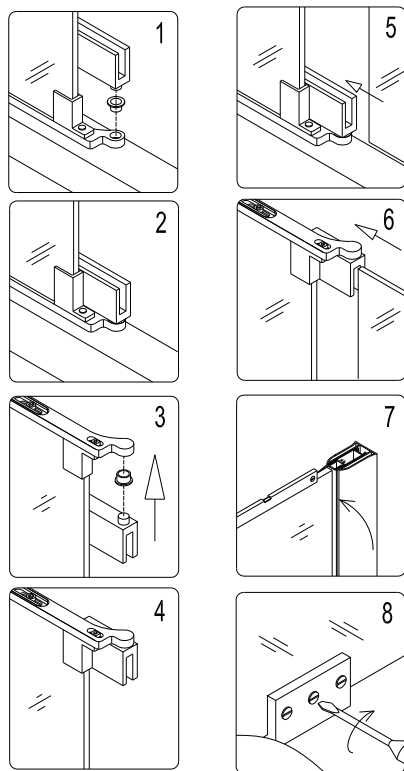

Fig 11
11. Install the bottom **Pivot assembly (12)** onto the pivot bracket (9). Make sure the **Washer (11)** is in between the pivot assembly and the pivot bracket. Make sure the rubber gaskets are in between the glass and the metal parts. Secure the glass with using provided bolts. See Fig 11 for details.